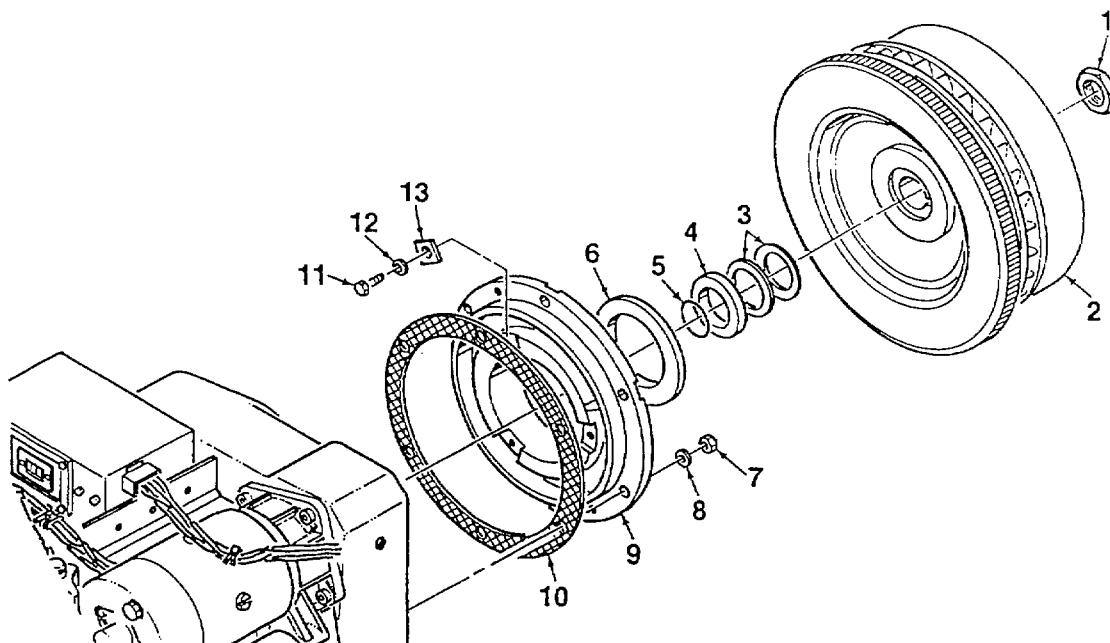

Figure 5-8. Flywheel and Ring Gear
1. Loosen, but do not remove flywheel nut (1, Figure 5-8).
2. Using a flywheel puller, loosen flywheel (2). Remove flywheel nut (1). Rotate flywheel until key on crankshaft is in top position, then remove flywheel.
3. Remove belleville washers (3). Install two M6 screws into holes in angle ring (4). Remove angle ring by pulling on screws. Remove O-ring seal (5).
4. Remove six nuts (7) and washers (8) that secure bearing cover (9) to mounting studs. Install two M8 x 40 screws into holes on opposite sides of bearing cover. Pull screws to separate cover from engine block.
5. Using two screwdrivers, pry oil seal (6) from bearing cover (9). Discard oil seal.
6. Remove and discard cover gasket (10).
1. Mate new cover gasket (10, Figure 5-8) over mounting studs.
2. Install new oil seal (6), O-ring seal (5), angle ring (4), and belleville washers (3). Install one washer with dish facing out, and the second washer with the dish facing in.
3. Install bearing cover (9) over mounting studs and gently hammer into place using a rubber mallet. Install six nuts (7) and washers (8). Tighten nuts in a criss-cross pattern to ensure even cover installation.
4. Carefully slide flywheel (2) onto crankshaft, ensuring proper alignment of keyway. Install flywheel nut (1) and torque to 288 to 303 ft-lbs (390 to 410 Nm).